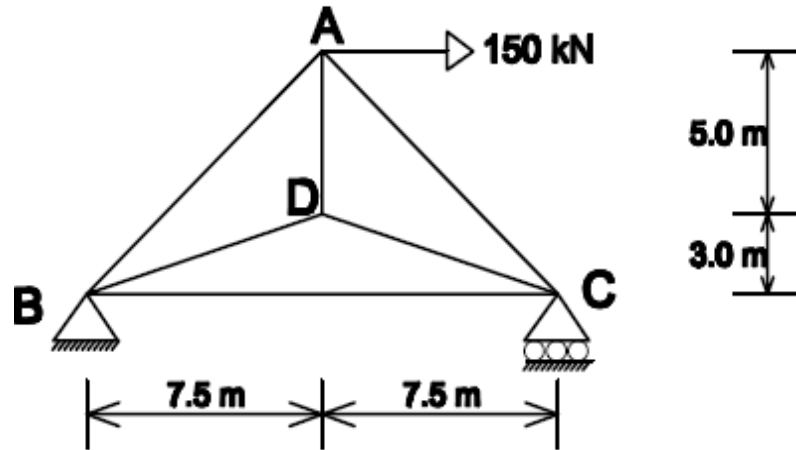

Figure 5
- 5 Find the forces in the members of the truss using Force method. AE is same for all the members.[Figure.5]